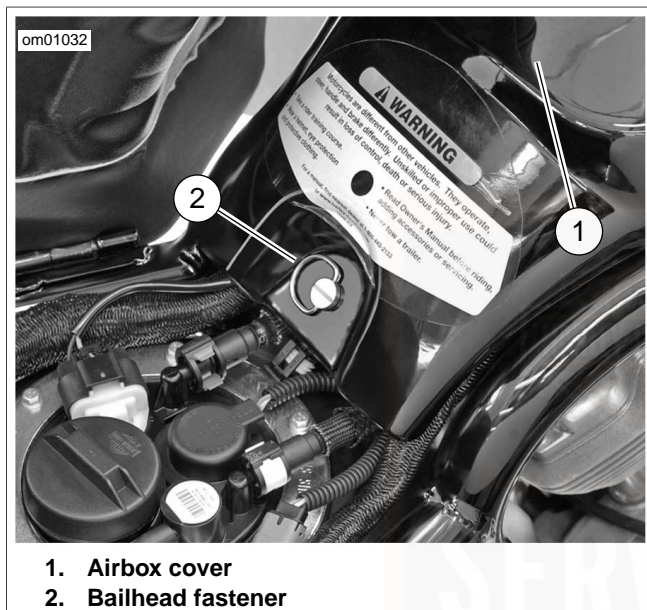

Figure 41. Airbox Cover: VRSC Models
3. See Figure 41. Remove the airbox cover by turning the bailhead fastener 1/4 turn counterclockwise. Pull the airbox cover away from the front locating holes.
12. See Figure 41. Position the airbox cover with the locating pins in the holes on the frame tabs.